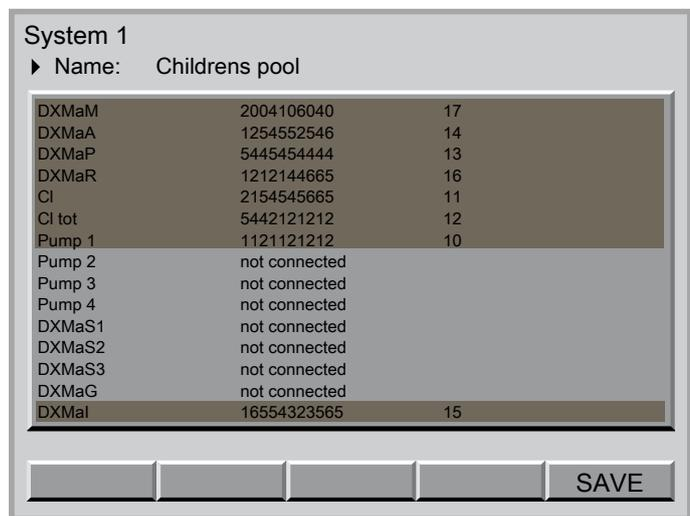

Fig. 8: Save assignment
3. ➤ F5 (SAVE) in display, see Fig. 8